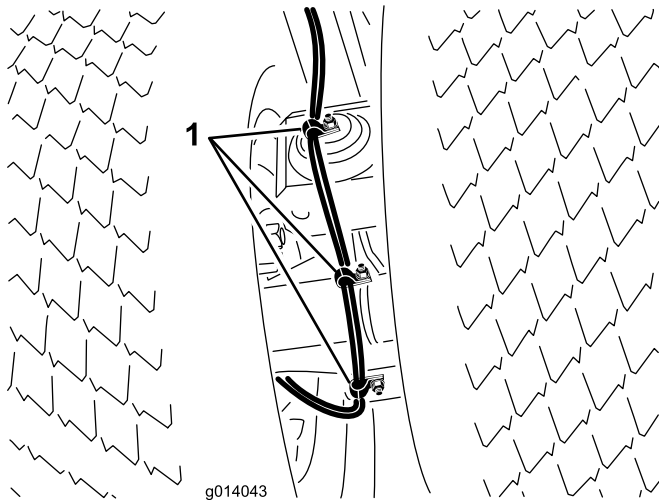

Figure 10
19. Secure the wire harness to the (3) studs on each side of the axle with R-clamps and lock nuts (Figure 10).